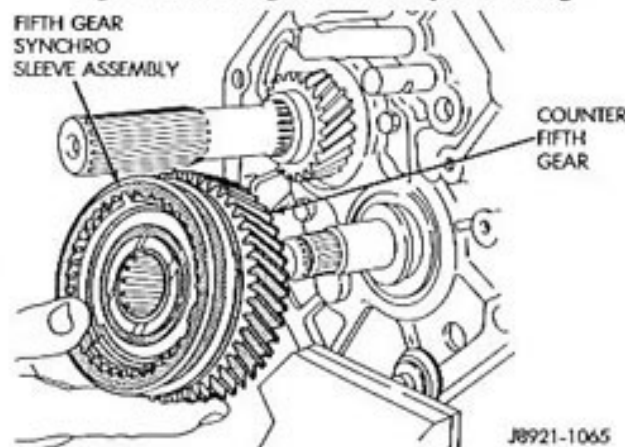

Fig. 35 Removing Counter Fifth Gear And Synchro Assembly
(16) Remove the fifth gear synchro and sleeve assembly (Fig. 35).